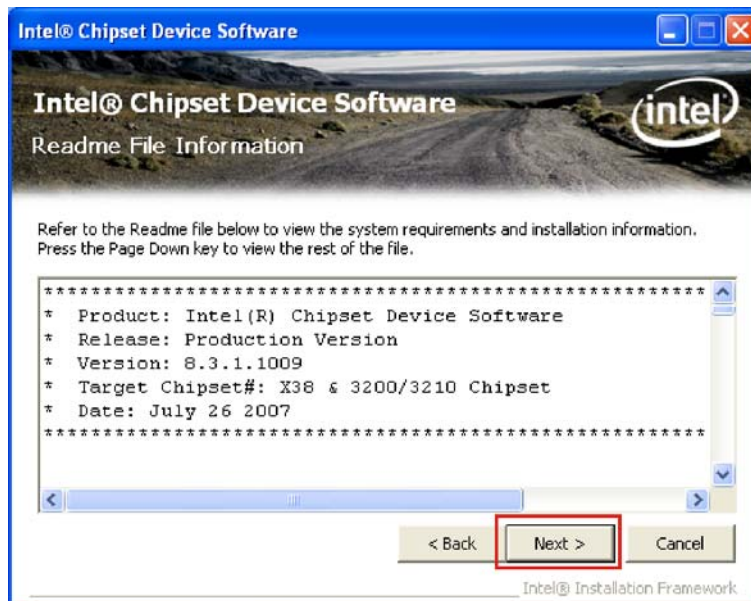

Figure 7-6: Readme File
Step 7: The Readme file contents are displayed (Figure 7-6).